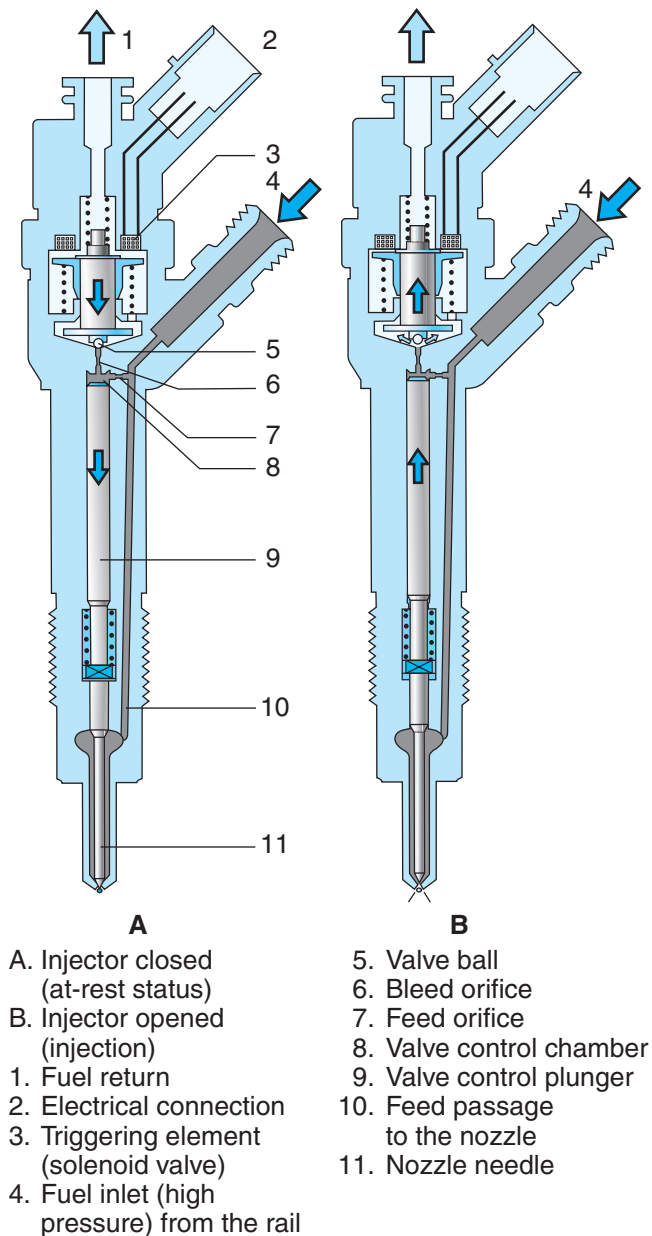

Figure 15-22 EHI. (Courtesy of Robert Bosch GmbH, www.bosch-presse.de)
used in CR fuel systems. First generation EHIs used a solenoid control valve, while more recent types use piezoelectric actuators. However, the general principles used by each type remain identical. We are going to use a Bosch EHI (see **Figure 15-22**) for purposes of the description here. An EHI can be subdivided as follows:
Overview of Operation. Reference the callouts in **Figure 15-22** as you read the following description. Fuel at rail pressure is supplied to the high-pressure connection (4), to the nozzle through the fuel duct (10), and to the control chamber (8) through the feed orifice (7). The control chamber is connected to the fuel return (1) via a bleed orifice (6) that is opened by the actuator valve. With the bleed orifice closed, hydraulic force acts on the valve control plunger (9) exceeding that at the nozzle-needle pressure chamber (located between the shank and the needle of the nozzle valve). Although the hydraulic pressure values acting on the top of the nozzle valve and that in the pressure chamber are identical, the sectional area at the top of the nozzle valve is greater. As a result, the nozzle needle is loaded into its seated position, meaning that the injector is closed.